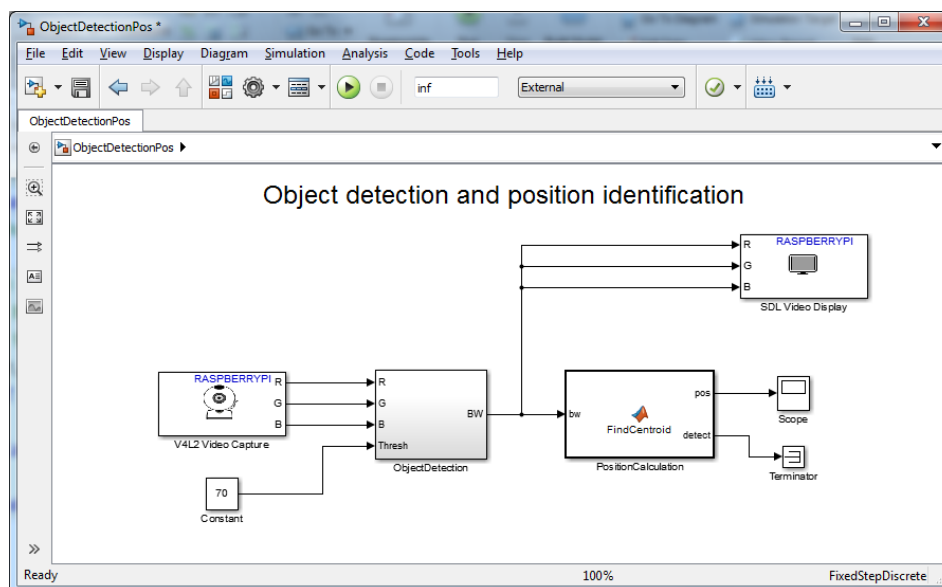

Figure 22: Object Detection model
7. Add the **Scope** block and user defined **MATLAB Function** block, and then insert the code as shown below in **Figures 22 & 23**.